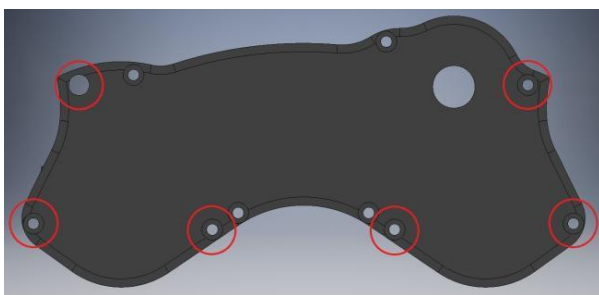

Figure 1
- 3) Remove the 6 M4X40 SH (Gear Pack) or M4x45 SH (Motor Pack) screws (Figure 1). These are all that hold the Gear/Motor pack to the drive section.